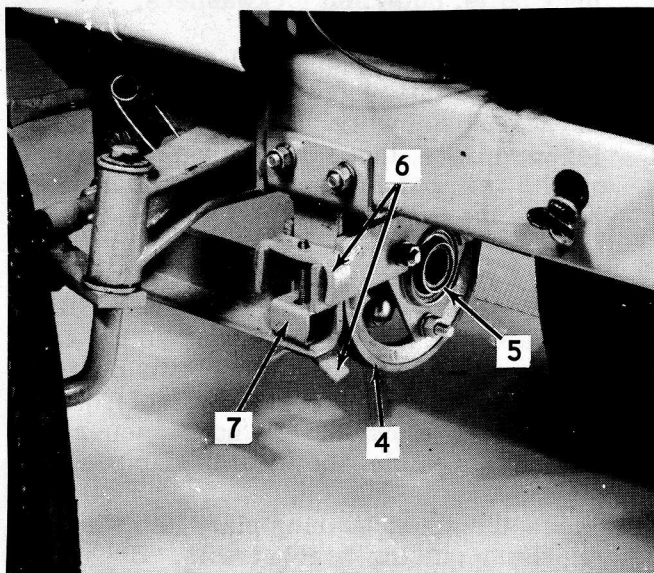

Figure 8. Drive Belt Installation and Tensioning
1. Drive Belt - Recommended belt tension is 1/4" deflection midway between the two pulleys under about 10 pounds finger pressure. Refer to paragraph 7 and Figure 8 in the Installation Section for proper tensioning procedure. Tension on a new belt should be checked following the first 1/2 hour and 2 hours of operation.
6. Place the clamp into the notches on left side of the bearing plates. Assemble the wing bolt through the bracket lock and clamp as shown in Figure 8. Do not tension the belt.